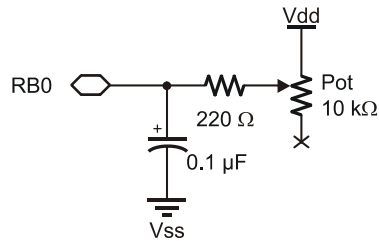

Figure 13-2: Reading a Potentiometer
The SX, of course, can keep time in a variety of ways. The trick is to select a method that provides adequate resolution for the task at hand without using such a high resolution that you'll need large counters to handle the time periods of interest. For example, suppose you have a 10 kΩ potentiometer and a .1 μF capacitor wired as shown in Figure 13-2.
2. Build the circuit shown in Figure 13-2. Create a program that reads the 16-bit count that shows the potentiometer's position and verify your code's operation using the SX-Key debugger.
3. Modify the above program to display the result on an RS-232 terminal. Hint: Write a carriage return (13) and disable the terminal's auto linefeed mode (if any) to see a pleasing display.